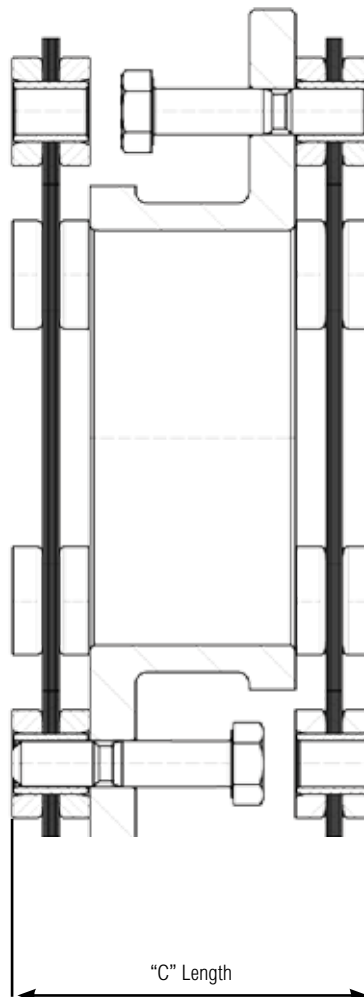

Figure 12 - Short "C" Length Scalloped Center Member
- 8.14 In the event the coupling utilizes a scalloped version center member you will need to pre assemble the disc packs to the center member before installing it between the mounted hubs as shown in Figure 12.